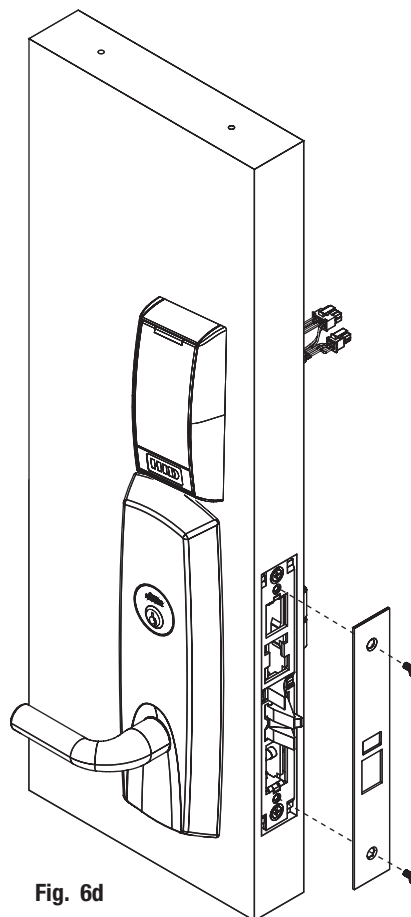

Fig. 6d
- e. Install armored front (Fig. 6d).